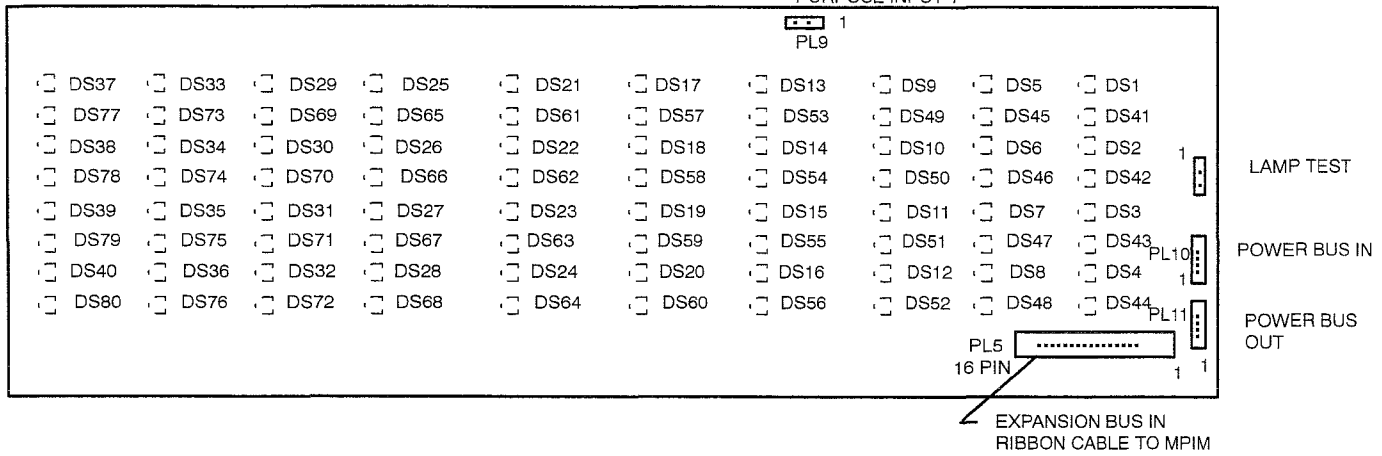

Figure 2. 40 x 2-Indicator Module. All circuits and connections are power limited/Class2.
**Important:** Note that Figure 2, above, shows the LEDs as they are configured for CONSYS programming of the I/O points. That is, DS1, DS41, DS2, DS42, etc. (DS1-DS40 are red LEDs; DS41-DS80 are yellow LEDs). Use this configuration rather than the configuration printed on the board.